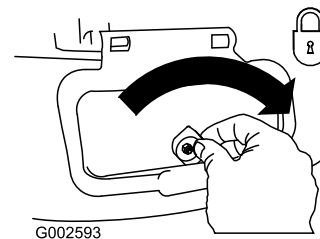

Figure 35
**Important:** Lock the side-discharge door after you close it (Figure 35).